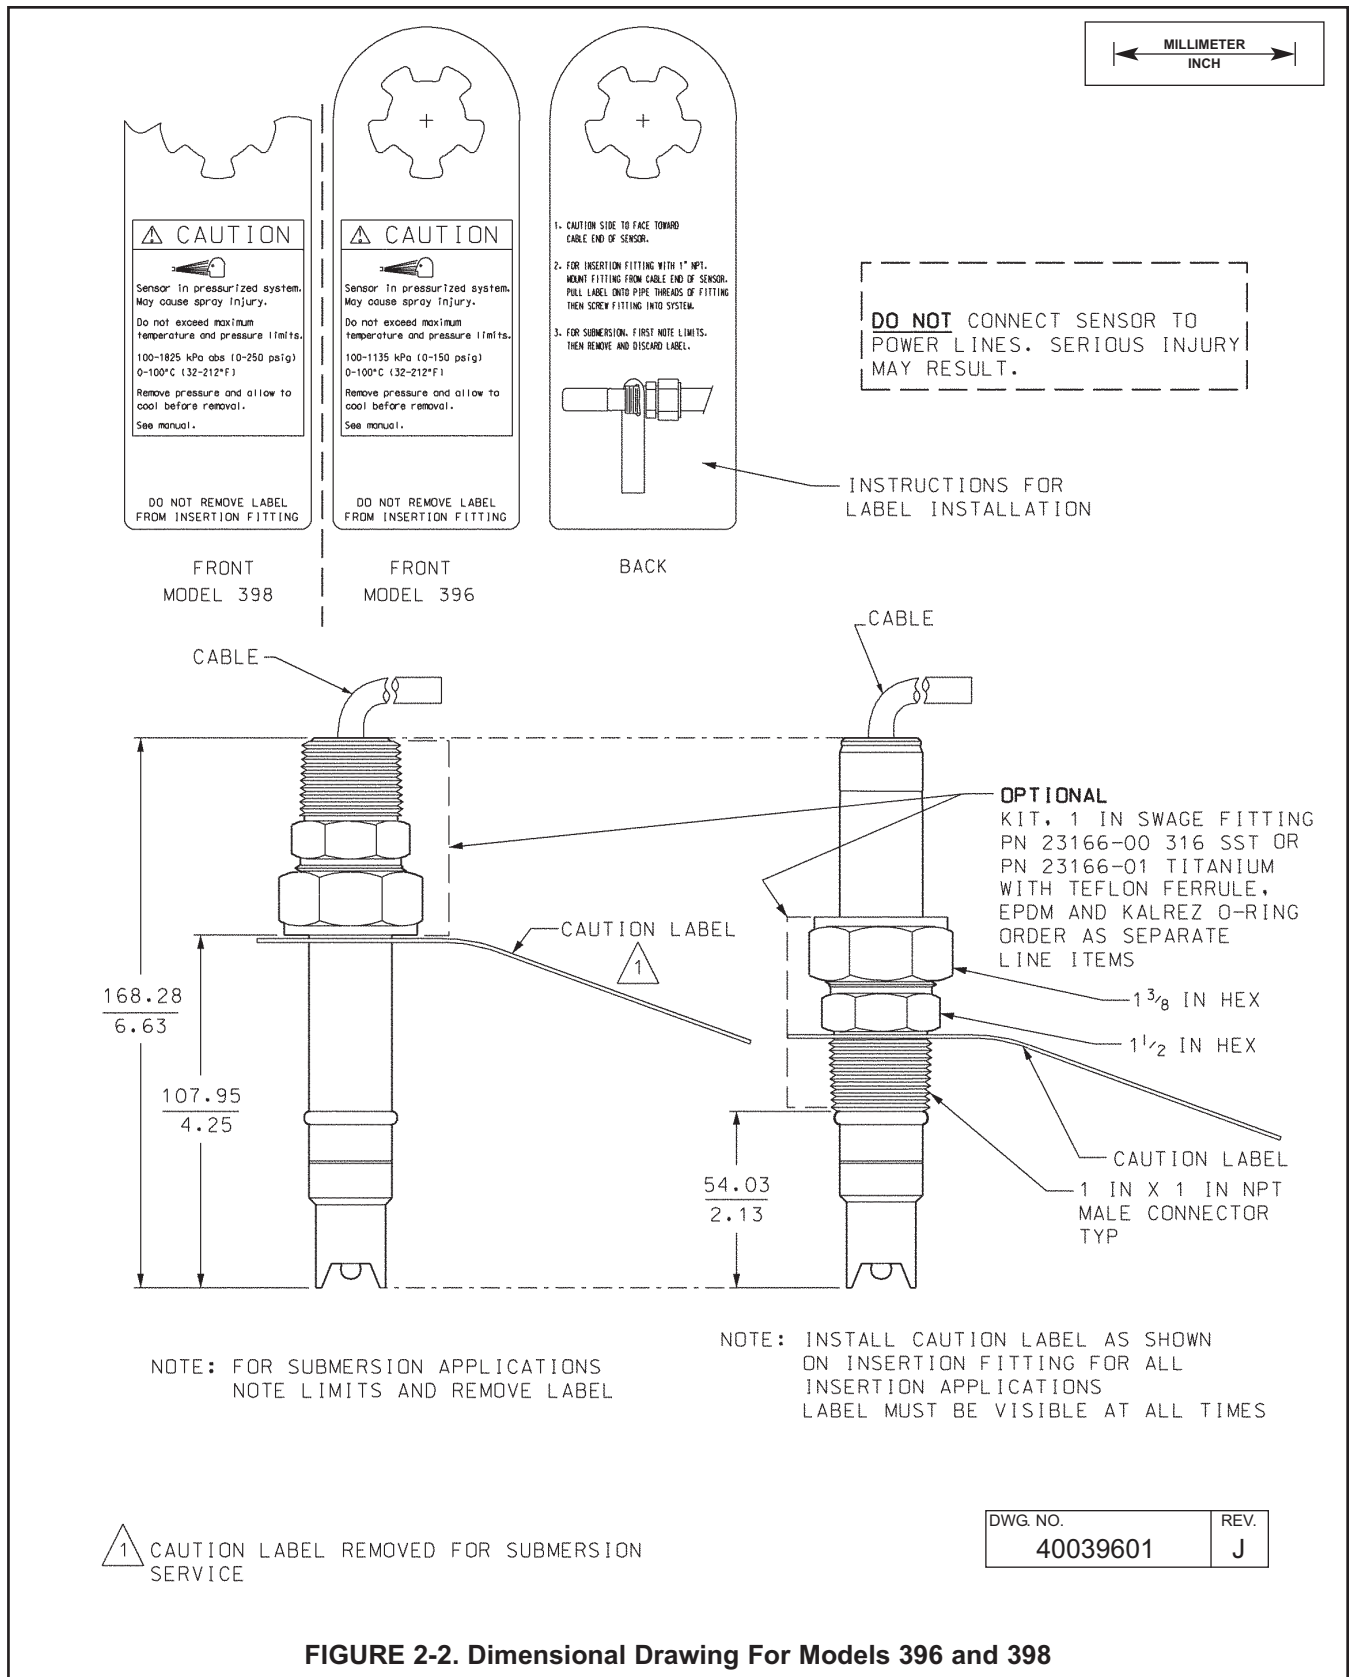

FIGURE 2-2. Dimensional Drawing For Models 396 and 398
2.2 MOUNTING. Each sensor has been designed to be located in industrial process environments. Temperature and pressure limitations must not be exceeded at any time. A caution or warning label regarding this matter is attached to each sensor. For insertion, transfer the label as shown on label instructions. See Figure 2-2. For submersion applications, first note limits then remove and discard label.